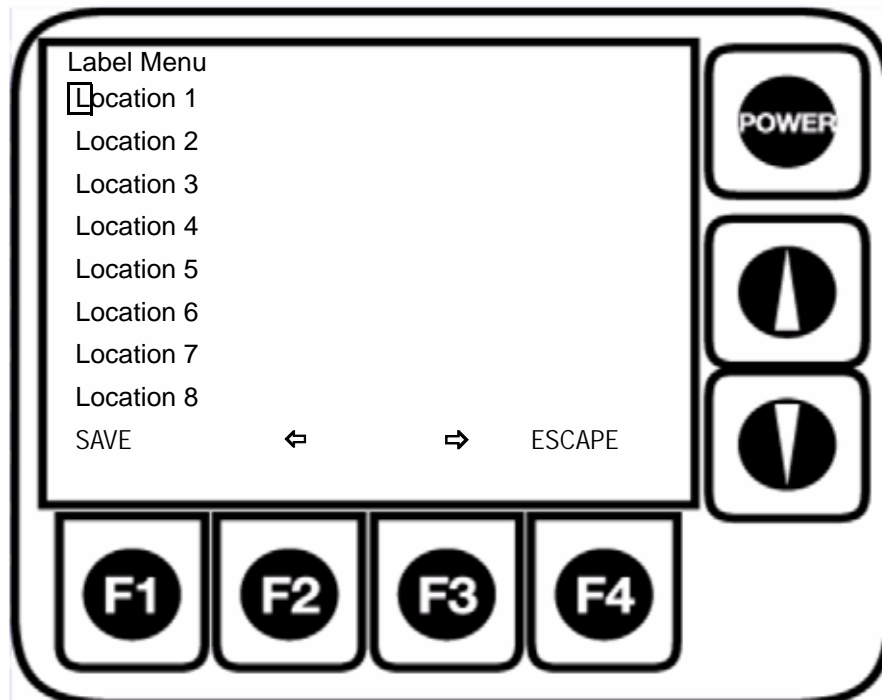

Fig 2-16 : Editing Location Label
- 5) A box cursor will appear on the first letter of the label as shown in Figure 2-16.